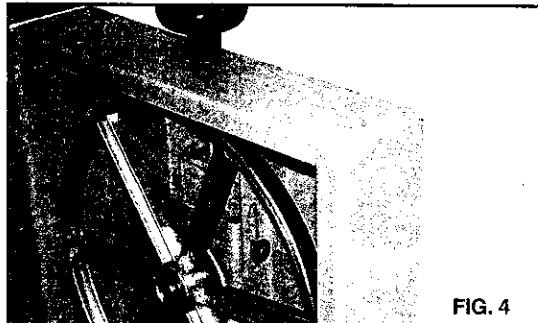

FIG. 4
d. Place the blade tension knob on to the blade tensioner (See Fig. 4).